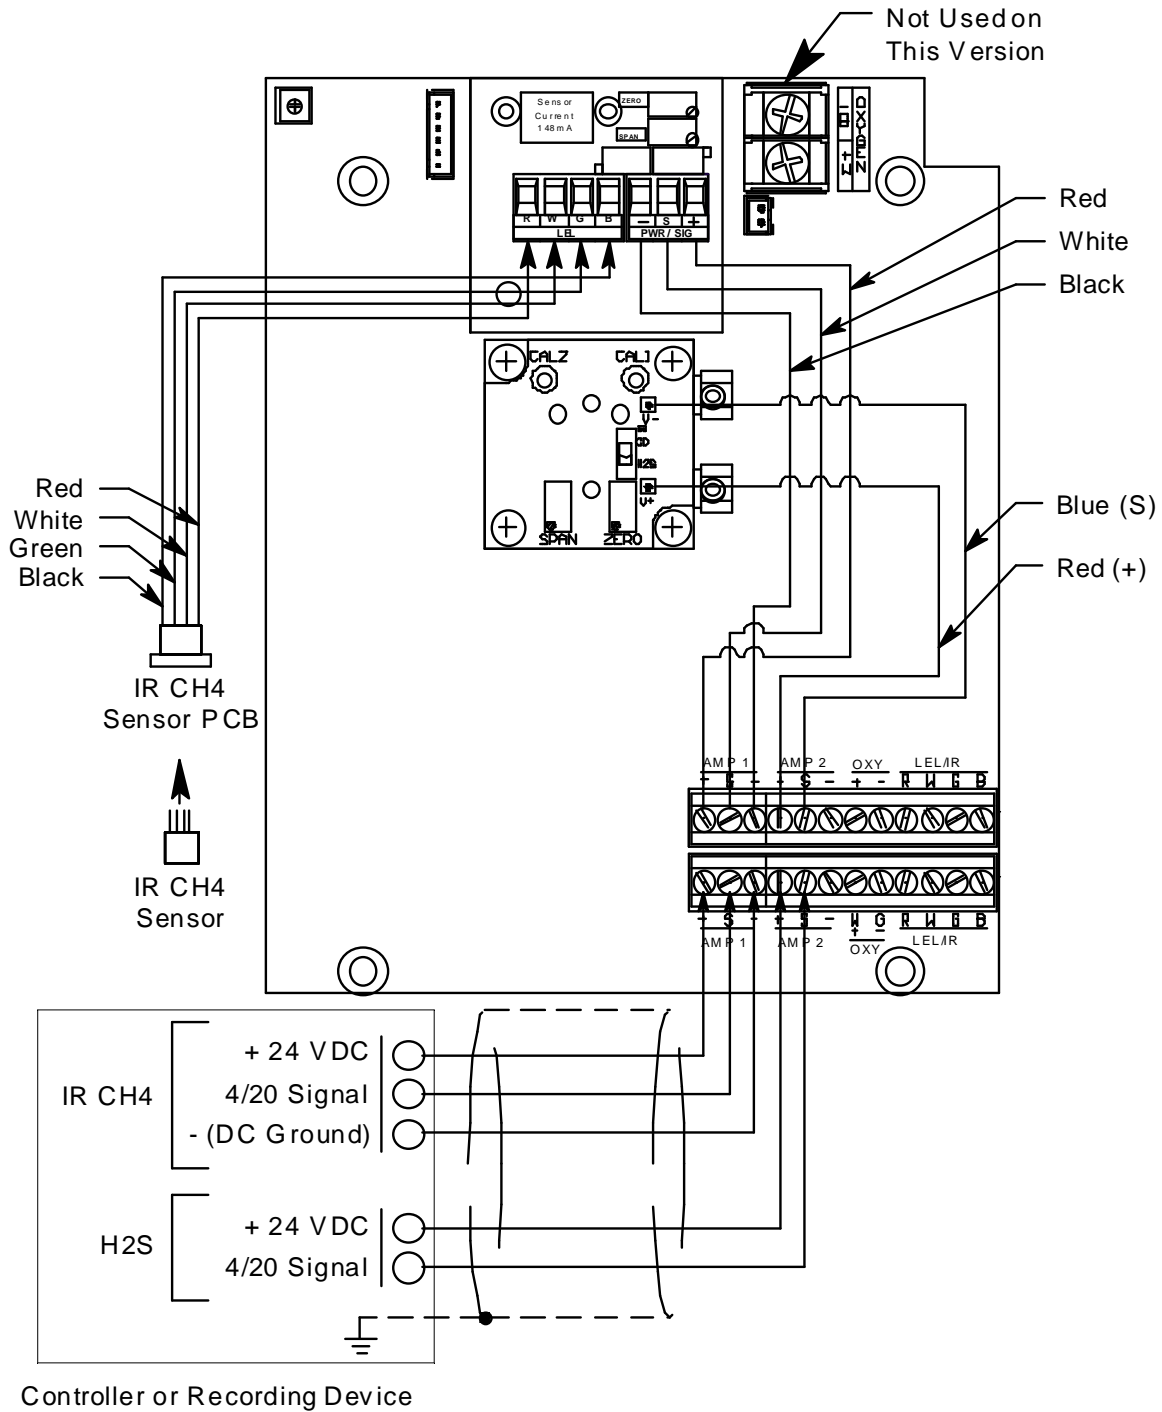

Figure 6: Wiring the Sample-Draw Detector to a Controller
5. Connect the cable to the sample-draw detector’s interconnect terminal strip as shown in Figure 6.
- Connect the wires to the applicable detector/transmitter terminal strip at the controller as shown in Figure 6. Refer to the controller operator's manual and the controller detector head specification sheet for the 35-3001A-07-03 for detector/transmitter terminal connections specific to the controller.